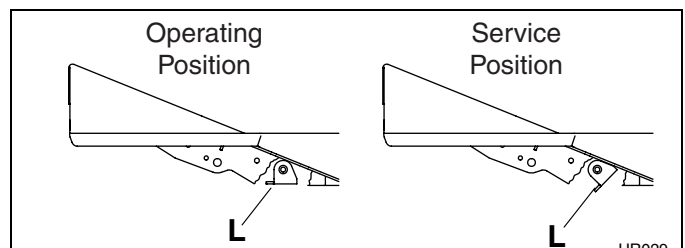

Figure 3E
1. Rotate anti-sway mechanism (L), located under left side floor panel, to Service position. Figure 3E
4. Rotate anti-sway mechanism (L) to its operating position. Figure 3E